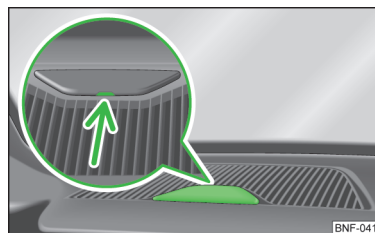

Fig. 76
- › Insert a slotted screwdriver into the recess marked with an arrow » Fig. 76 and fold the cover carefully upwards.
- › Seal the opening for the cradle in the dash panel with the cover » Fig. 76.